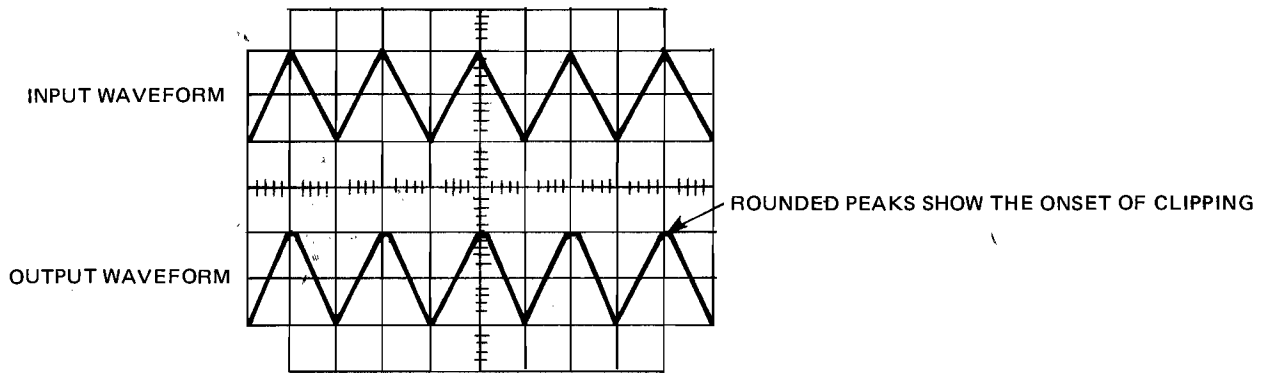

Figure 5-3. Using Triangle Waveform to Detect Clipping
3. Triangle signals are particularly useful for detecting the onset of clipping in an amplifier, as indicated by a rounding of the peaks. Refer to Fig. 5-3.